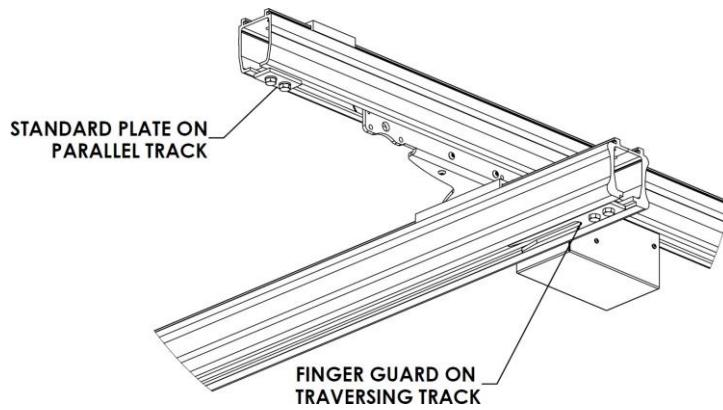

Figure 53: **Exchange the Finger Guard with the Track Endstop Plate**
3. On the charger endstop assembly of the parallel track, exchange the finger guard with the track endstop plate supplied with the X/Y Gantry Trolley (Figure 53).